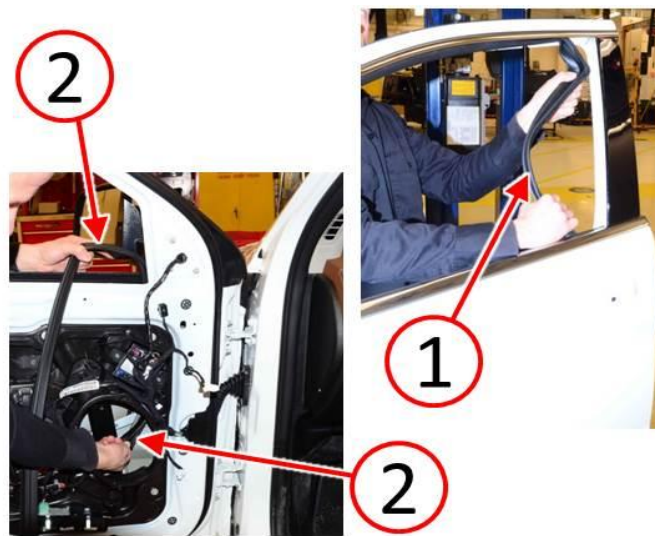

Fig. 5 Remove Door Glass Run Seal
3. Remove the door glass run seal beginning with the rear leg of the seal (1) and working toward the front leg of the seal (2) (Fig. 5).